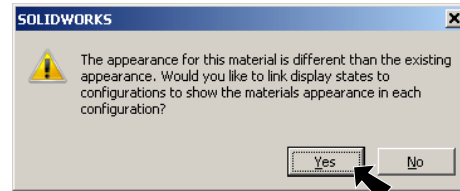

Fig. 167
Step 9. Click Yes to link message, **Fig. 167**.